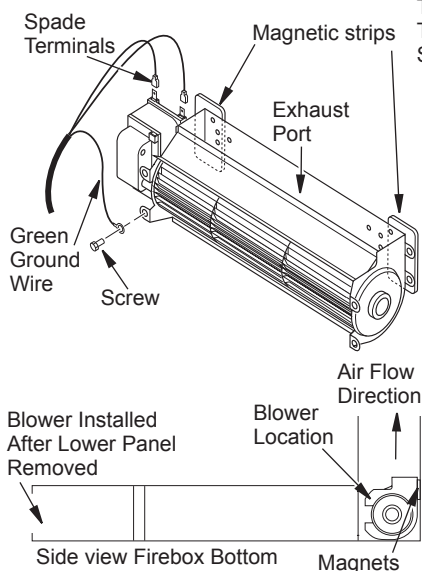

Figure 5: Blower Model BK
1. Attach the power cord to the blower motor by firmly pushing the two female terminals at the end of the power cord onto the two spade terminals on the blower motor (see Figure 5).
2. Attach green ground wire from power cord to blower housing using screw provided (see Figure 5) Tighten screws securely with a phillips screwdriver.
3. Place the blower against the lower rear wall of the firebox outer wrapper with the exhaust port directed upward. Depending on your model, you may have to carefully route the blower assembly past the controls and brackets, and position the blower inside the back opening. The blower will be held in position against the back wall by the magnets incorporated onto the blower housing (see Figure 5).